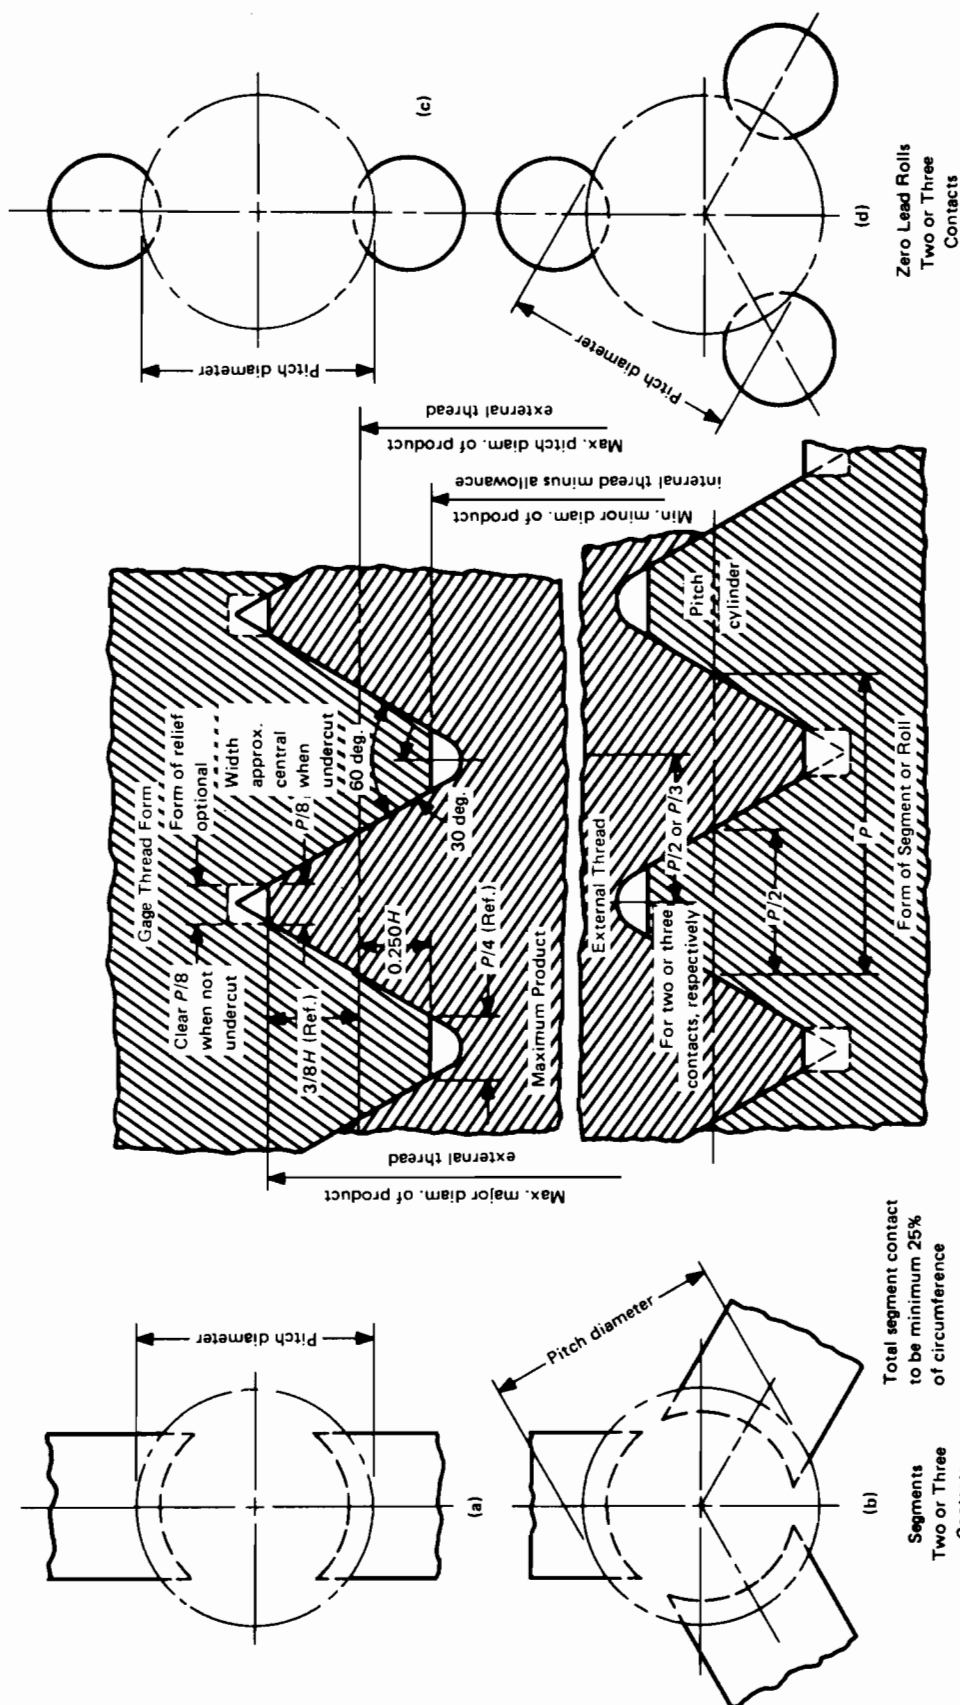
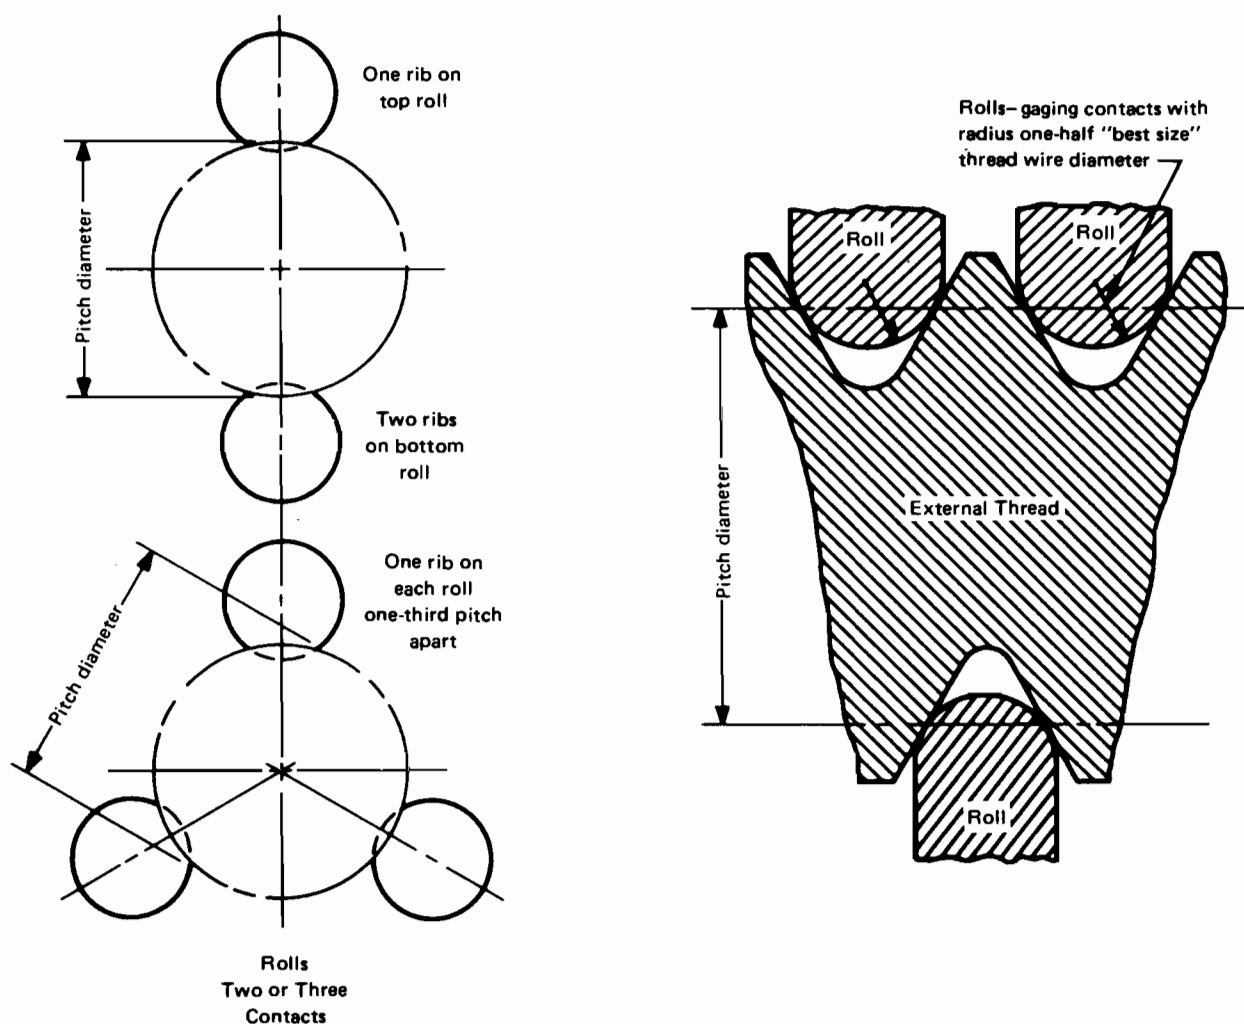
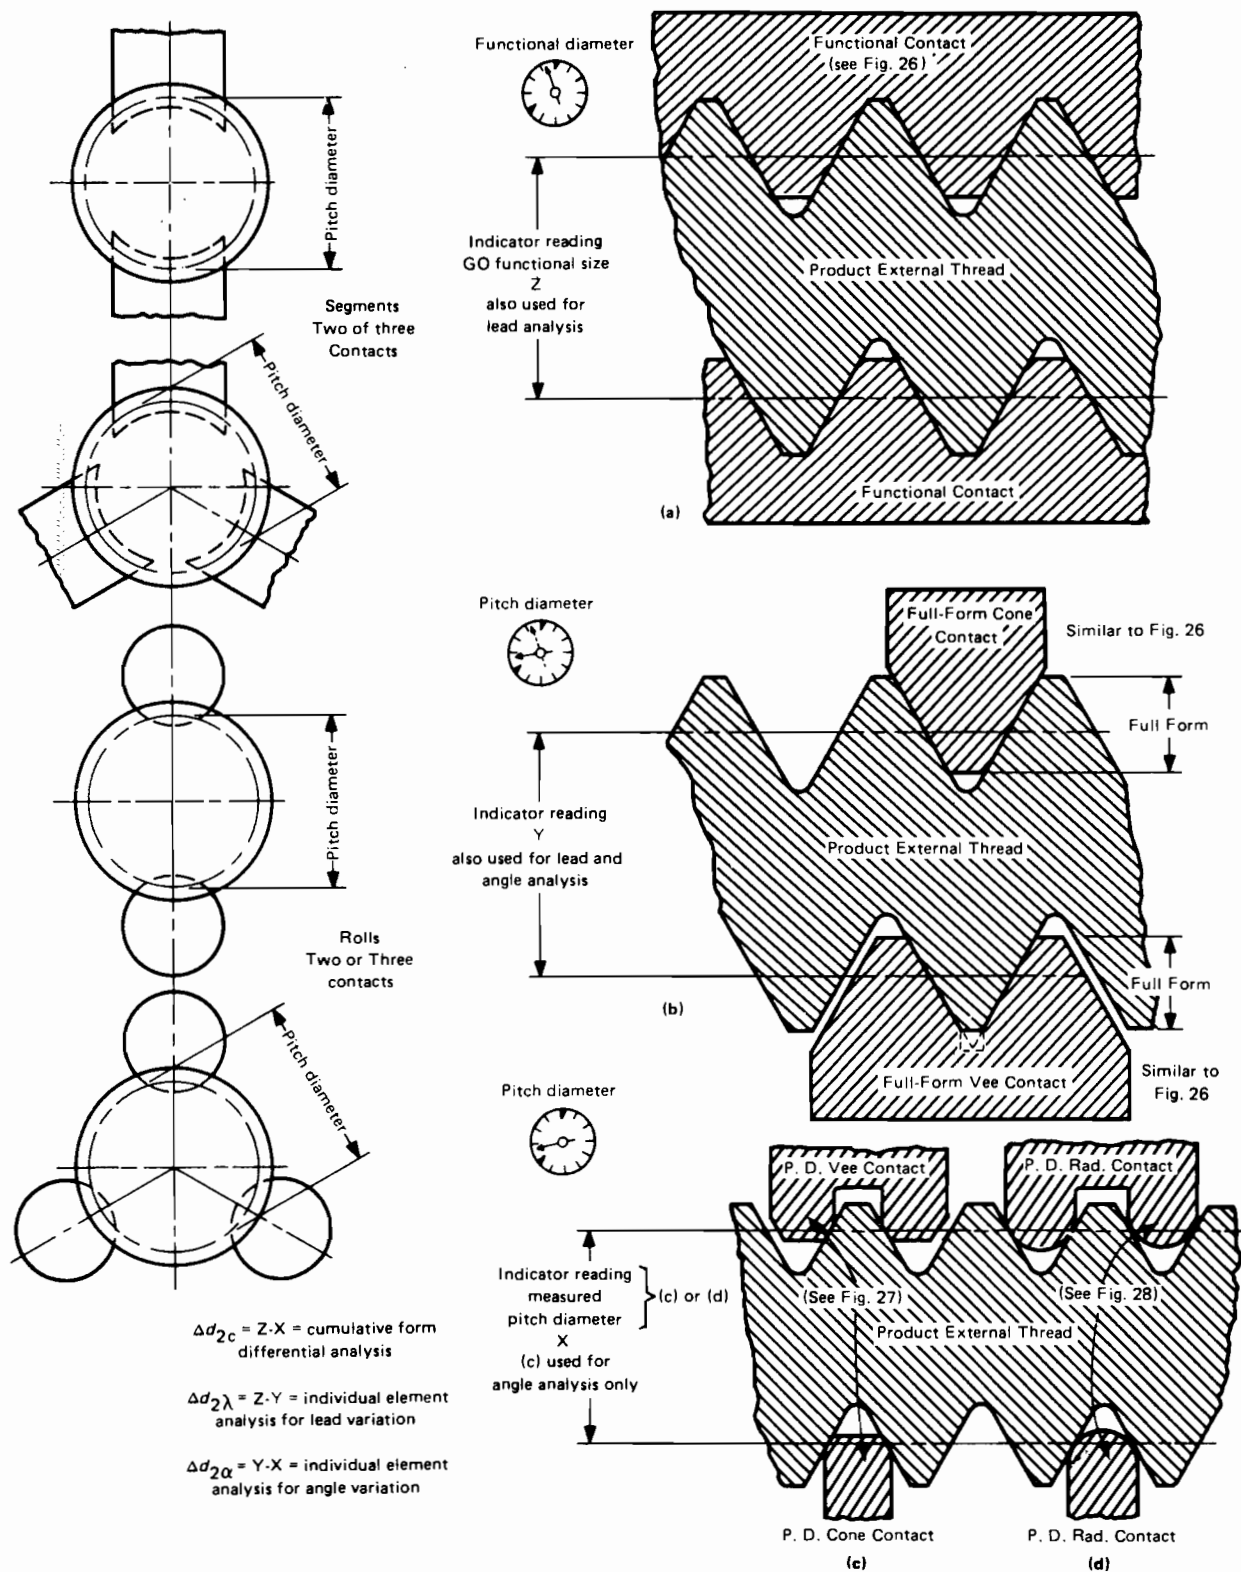

FIG. 26 INDICATING THREAD GAGES — MAXIMUM-MATERIAL GO FUNCTIONAL DIAMETER LIMIT AND SIZE
FIG. 28 INDICATING THREAD GAGES — MINIMUM-MATERIAL THREAD GROOVE DIAMETER LIMIT AND SIZE
FIG. 30 INDICATING THREAD GAGES — DIFFERENTIAL GAGING
5.9.3 Thread Form. The specifications for thread form for GO functional maximum-material segments and rolls are summarized in Table 4 and Fig. 26.
5.12.2 Cumulative Thread Element Variation Differential. Indicating gages have either three contacts at 120 deg. spacing or two contacts at 180 deg. spacing. The indicating gages with segments or rolls as shown in Figs. 26 and 30, sketch (a), give the functional size indicating reading, Z . The indicating gage with cone and vee segments or rolls with one thread pitch engagement at pitch diameter line, Fig. 27, and thread groove diameter type, Fig. 28, or both, shown in Fig. 30, sketches (c) and (d), give the pitch diameter size indicating reading, X . The difference in the indicator readings, $Z - X$, between the two types of gages gives the cumulative form differential reading which corresponds to the pitch diameter equivalent, $\Delta d_2 C$, for the combination of lead, helix, flank angle, roundness, and taper variations on the product thread. See Fig. 30.
The indicating gage reading, Y , using the full-form thread segments or rolls with one thread pitch engagement, similar to Figs. 26 and 30, sketch (b), is compared to the reading Z , using the functional size gage shown in Figs. 26 and 30, sketch (a). The difference between the measured values, $Z - Y$, is the lead differential reading which corresponds to the pitch diameter equivalent, $\Delta d_2 \lambda$, for the lead and helix variation on the product thread.
segments or rolls, similar to Figs. 26 and 30, sketch (b). Both designs have one thread pitch engagement. The difference between the measured values, $Y - X$, is the flank angle differential reading which corresponds approximately to the pitch diameter equivalent, $\Delta d_2 \alpha$, for the combined flank angle variation on product thread.
5.12.3.3 Roundness and Taper Differential Readings. By the use of full-form thread segments or rolls with one thread pitch engagement, similar to Figs. 26 and 30, sketch (b), cone and vee segments or rolls, Figs. 27 and 30, sketch (c), or thread groove diameter type, Figs. 28 and 30, sketch (d), the roundness and taper of pitch cylinder is checked. Rotate the product between contacts at different axial locations on thread for maximum differences in roundness and taper readings. Two contacts spaced 180 deg. apart give even lobing out-of-round measurement. Three contacts spaced 120 deg. apart give odd lobing out-of-round measurements.
5.12.4 Thread Form. The functional segments or rolls, Fig. 30, sketch (a), are described in 5.9. The full-form, one thread vee segment or roll, Figs. 26 and 30, sketch (b) lower contact, has a depth of thread equivalent to the functional type, but relieved on the outside thread flanks. The full-form cone segment or roll, Figs. 26 and 30, sketch (b) upper contact, has a $P/8$ flat on outside diameter. The cone and vee segments or rolls, Fig. 30, sketch (c), are described and shown in Fig. 27. Thread groove diameter type, Fig. 30, sketch (d), is described and shown in Fig. 28.